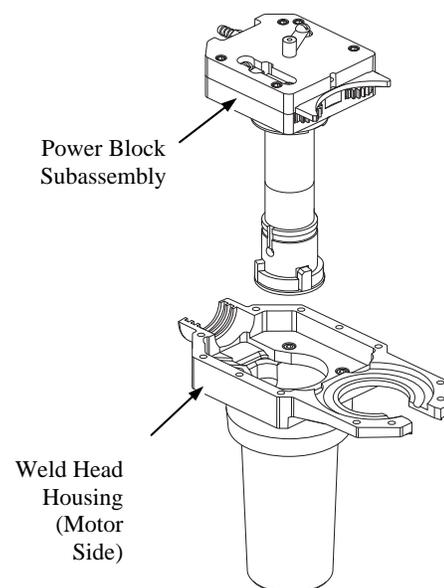

Figure 27 Removing the Power Block Subassembly
8. Carefully lift the power block subassembly out of the motor half of the weld head housing. See Figure 27.